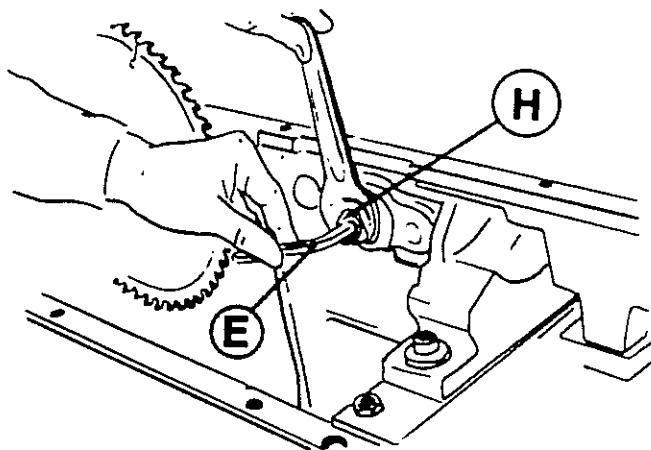

Fig.18
- Lock spindle by fitting 8 mm wrench (E fig.18) into hexagonal groove
- Loosen nut (H) with right handed thread